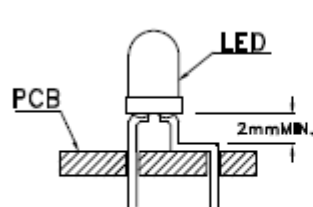
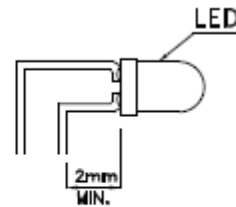

Fig. 5
Fig. 6
1. Maintain a minimum of 2mm clearance between the base of the LED lens and the first lead bend (Fig.5 and Fig.6).